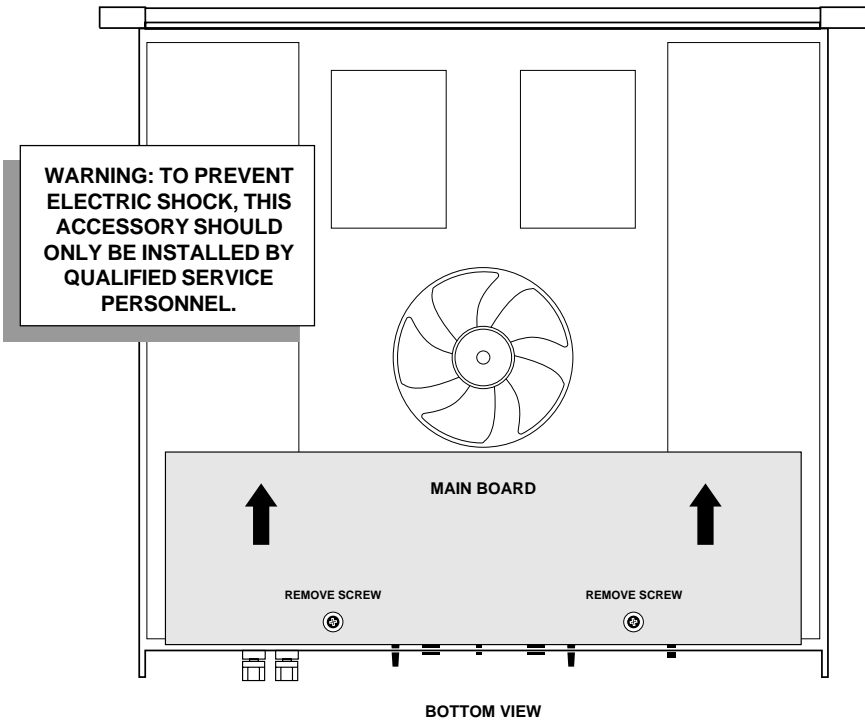
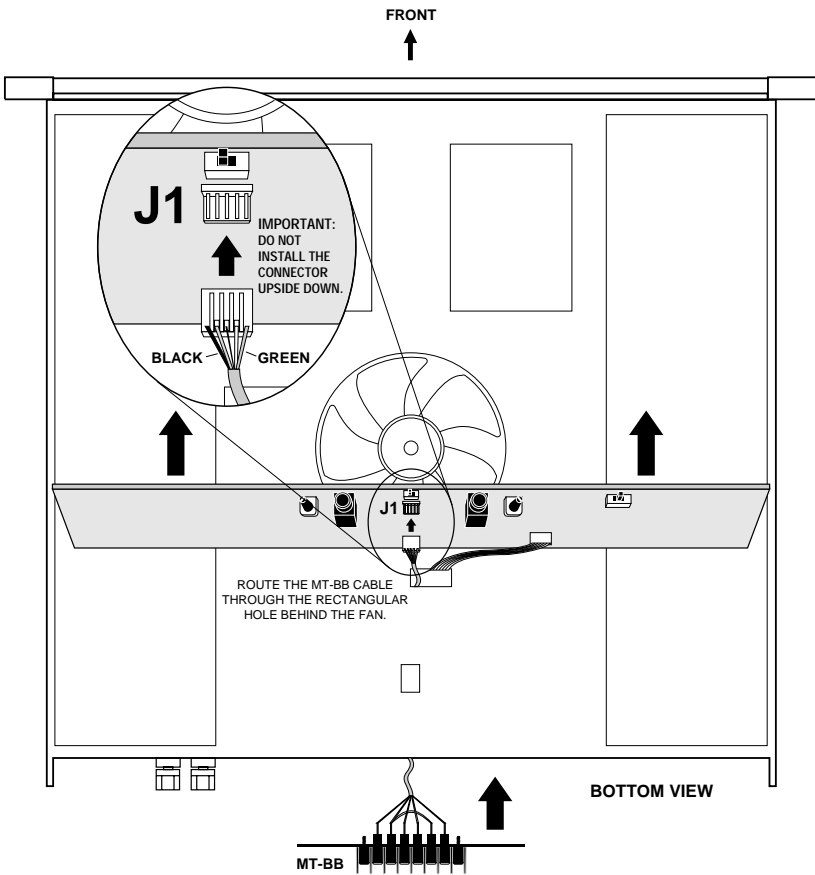

Fig. 2.1 Inside an Amplifier
Fig. 2.2 Installing an *MT-BB*
4. Locate the Main Board (Figure 2.1) and remove the two phillips screws that secure it to the chassis. Remove the nuts that secure the input phone jacks to the rear panel. Lift the front of the Main Board to clear the stand-offs. Slide the Main Board toward the front until the phone jacks and level control shafts clear the rear panel then carefully lift the rear of the board to expose its top side (Figure 2.2).